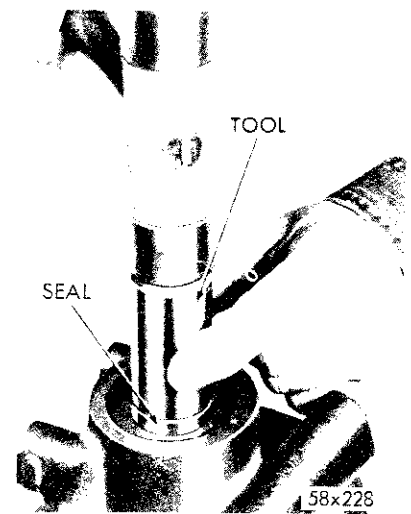

Fig. 53—Installing Pump Oil Seal (Typical)
(3) Install the new oil seal with the lip of the seal toward the pump. Use Tool C-3640 to drive the seal flush with insert (Fig. 53).
(4) Install the pressure relief valve and gasket assembly.
(5) Remove the front bracket. Support the pump body on the holding fixture, Tool C-3643, with the tool dowel pins in the pump bolt holes so that the